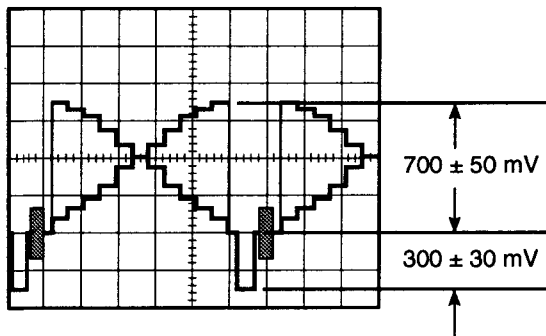

Fig. 5-27
- Confirm that the Video signal becomes 700 ± 50 mV as shown in Fig. 5-27.
- If not, adjust data with the **ARROW** keys so that the Video signal level becomes 700 ± 50 mV as shown in Fig. 5-27.